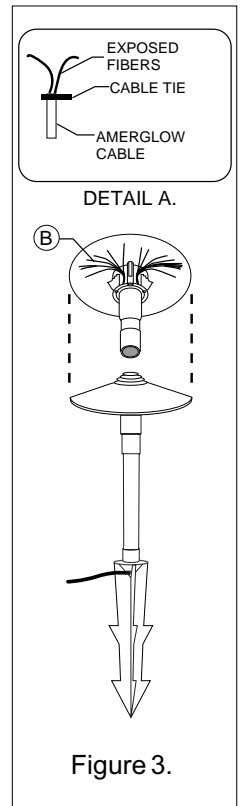

Figure 3.
3. Strip 4 in. of the AmerGlow™ jacket from the end of the fiber cable, see Figure 3, Detail A.
4. Place the cable tie around the AmerGlow™ cable jacket just behind the exposed fibers, pull tight and cut off excess, see Figure 3, Detail A.
6. Assemble the Single Tier shade on to the fixture stem. (The fibers should extend out to the edge of the shade. Use wire cutters to trim the fibers that are too long and visible outside the shade, see Figure 3-B.)